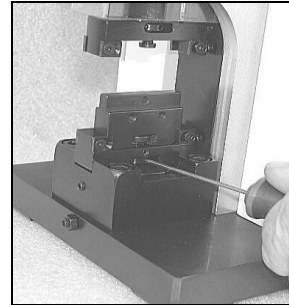

Fig. 9.04
- **Slightly tighten the T-Bolt by turning the hole-nut counter clock wise. (Fig. 9.04)**